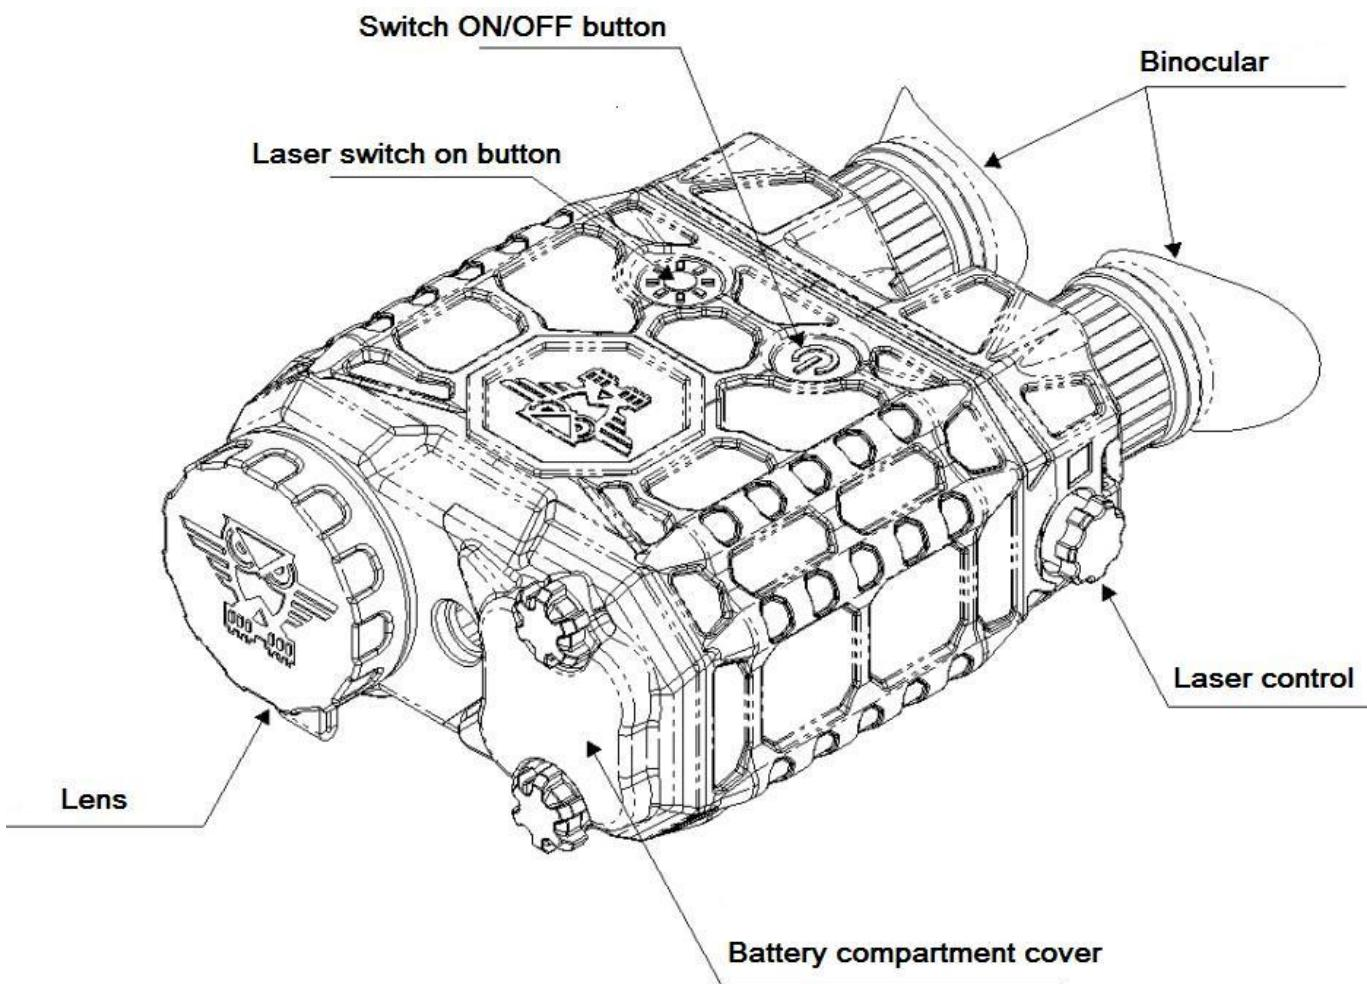

Fig. 1. Control keys of SPIN-2
1.4.1. SPIN-2 controls are shown in Figure 1.